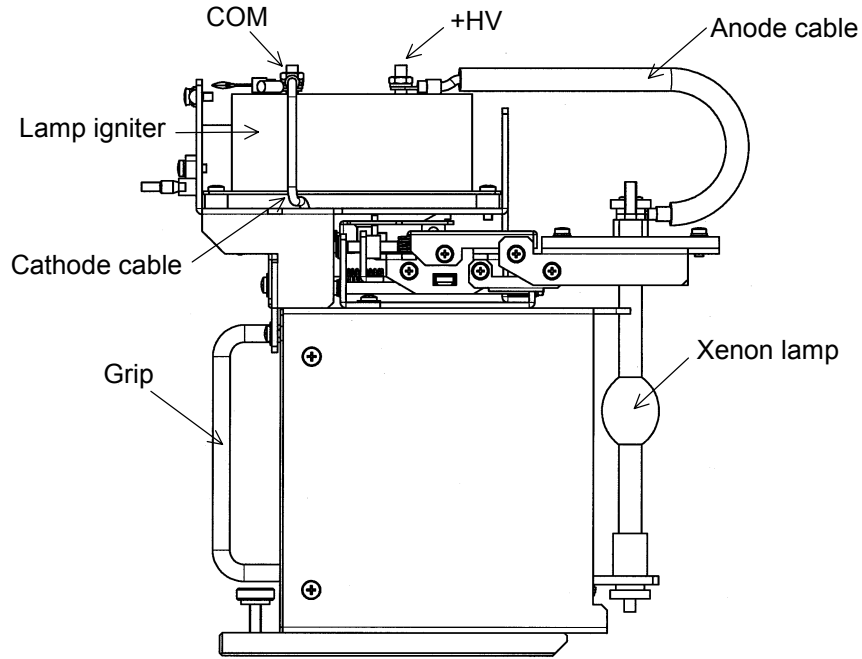
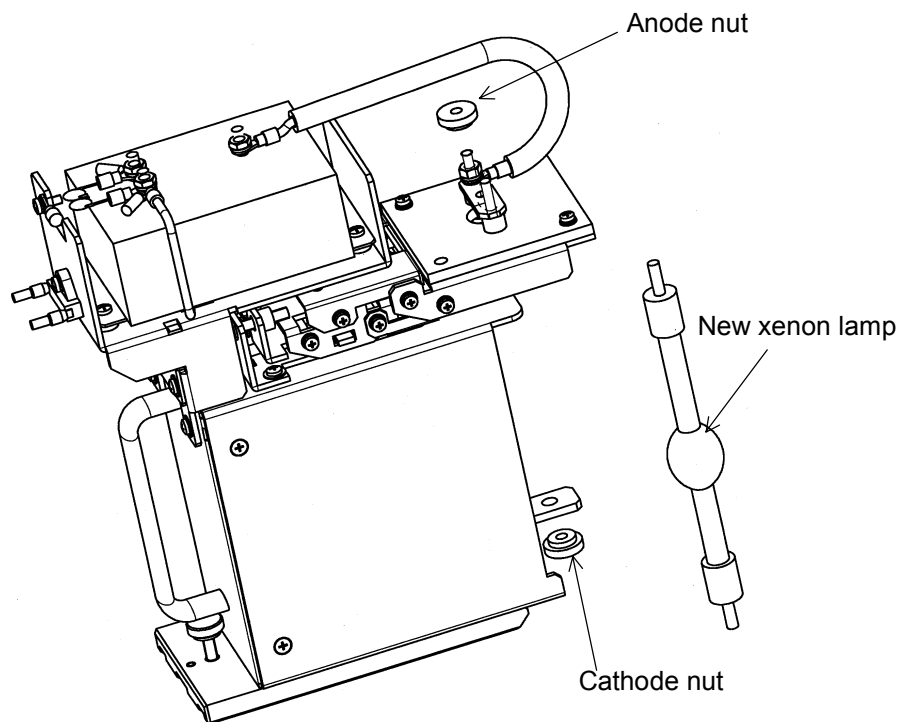
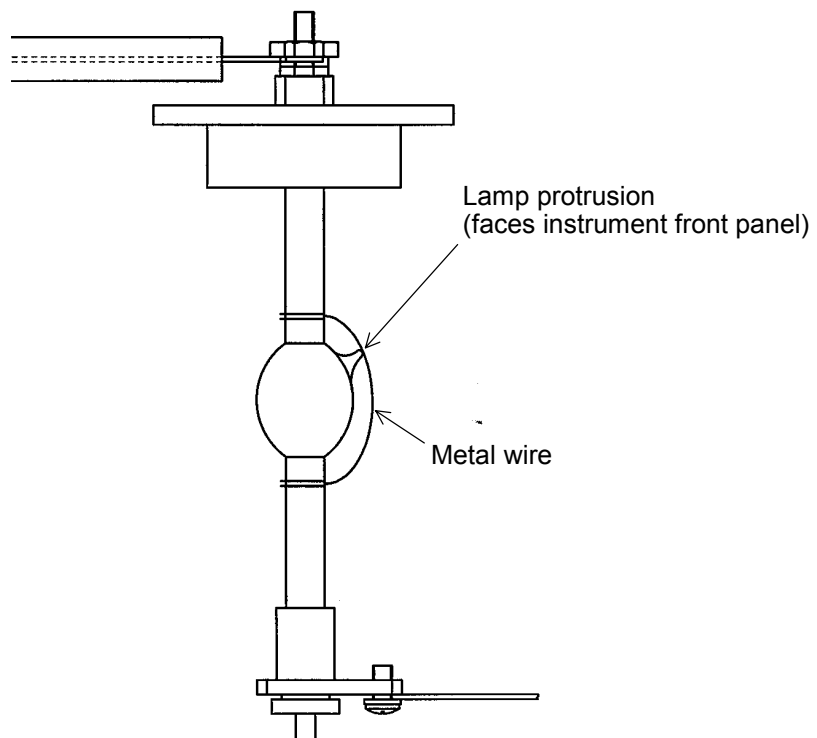

Fig. 5-4 Lamp House after Removal
Fig. 5-6 The Xenon Lamp
Fig. 5-7 Orientation of Lamp Bulb Protrusion
Attach the cathode lead plate to the threaded part of the cathode, and secure the lead plate with the cathode nut (Fig. 5-6). Mount the lamp so that the protrusion on the bulb faces the instrument front panel (Fig. 5-7).
- (i) As shown in Fig. 5-6, put the anode terminal (marked “+”) of the lamp into the metal fixture on the ceramic plate. Then, using the anode nut, mount the lamp so that the protrusion on the bulb is positioned as shown in Fig. 5-7. Refer to Fig. 5-4 for a view of the lamp when assembled.
NOTE: Mount the xenon lamp so that the protrusion on the bulb faces the instrument front panel (Fig. 5-4). A mistake in the orientation may cause an increased light loss and preclude obtaining the desired performance from the instrument.